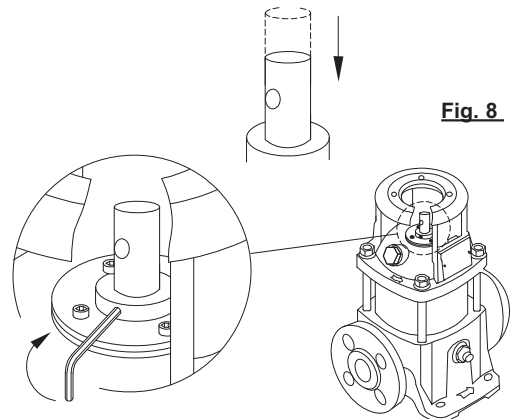

Fig. 8
4. Make sure the pump shaft is pushed down completely and tighten the set screws in the collar. (Fig. 8)